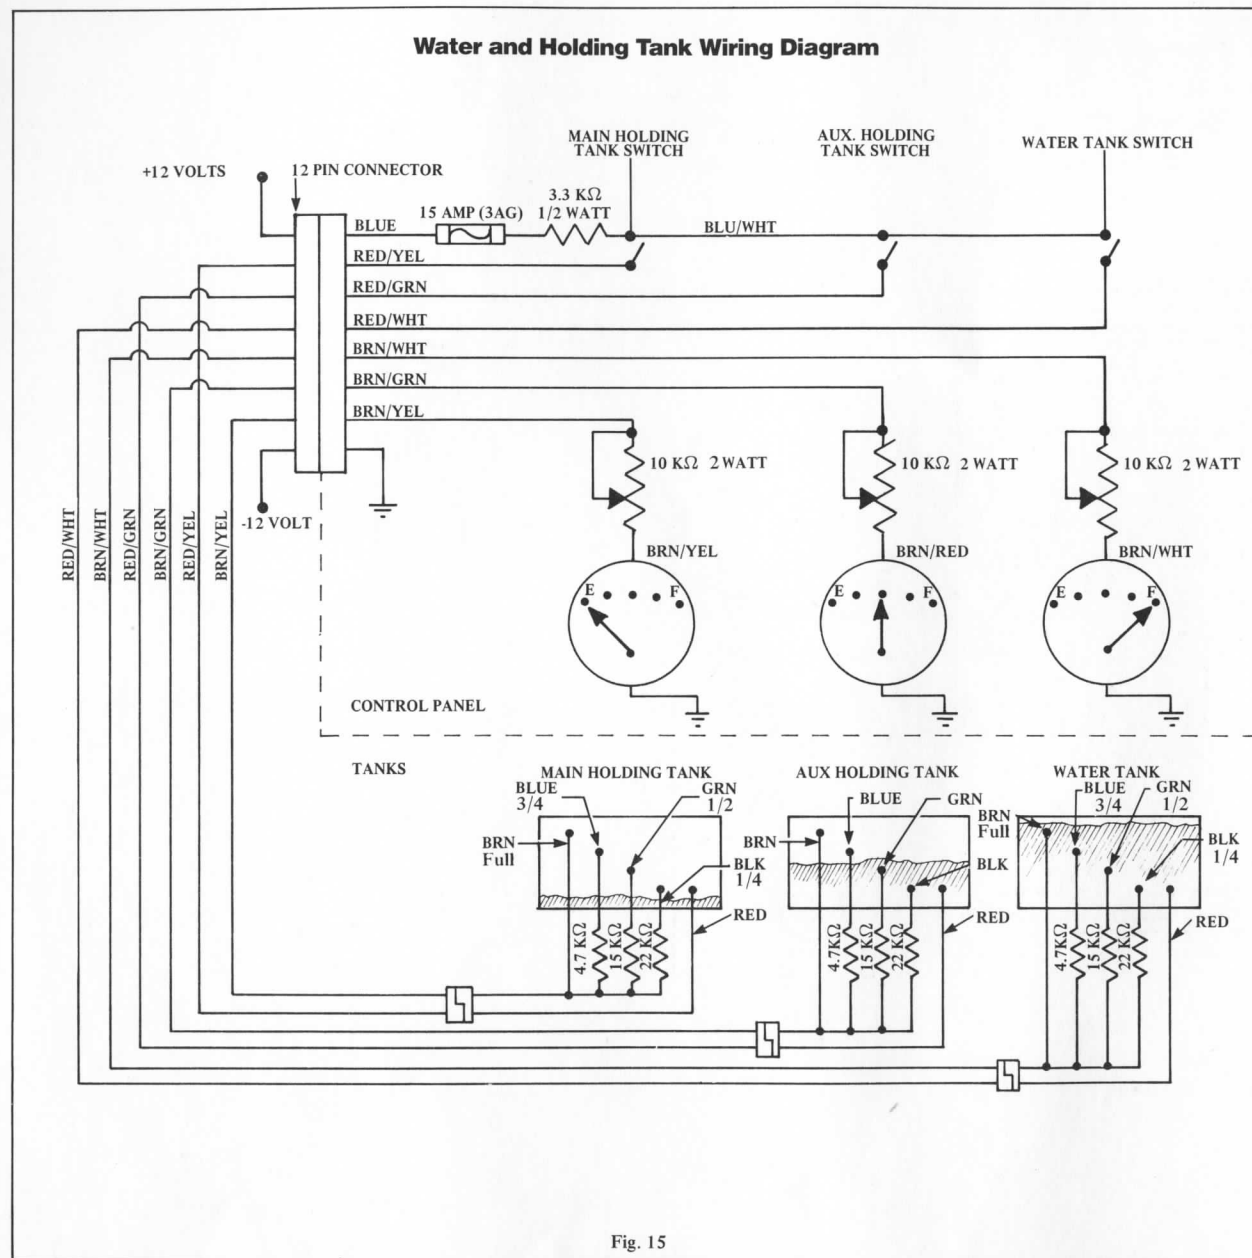

Fig. 15
2. Fig. 15 illustrates the amount of liquid in the tanks for each of the five needle positions.
The circuit wires in the tank monitoring system are part of the interior harness assembly. Fig. 15 illustrates the color coding and wire routing for the tank monitoring system.
4. Examples of three of the five positions are shown in Fig. 15 In the main holding tank example, the liquid level is below the 1/4 level probe. No current can flow between the common probe and other probes. Therefore, the gauge needle remains on empty.